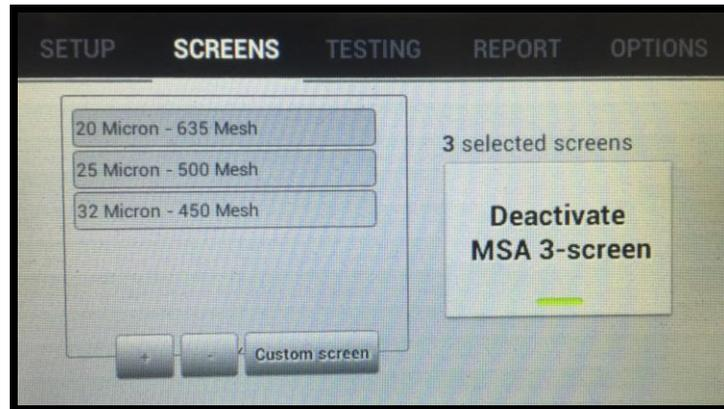

Figure 29
- i) In the event Activate the MSA 3- screen analysis button is pressed unintentionally the Deactivate MSA 3-screen button (See Figure 29) can be pressed returning the software to the normal mode. **CAUTION:** should the “Deactivate MSA 3-screen” be pressed the number of test sieve screens will remain at three (3). It may be necessary to manually remove the last Test Sieve Screen from the list by pressing the “-” button (located directly beneath the test sieve selection chart).